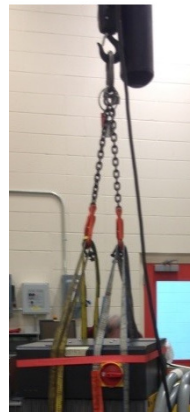

Figure 1-1 Attach Straps to Lift Device
2. Bring the straps up and above the Altanium controller and attach them to the lifting device. Refer to Figure 1-1.